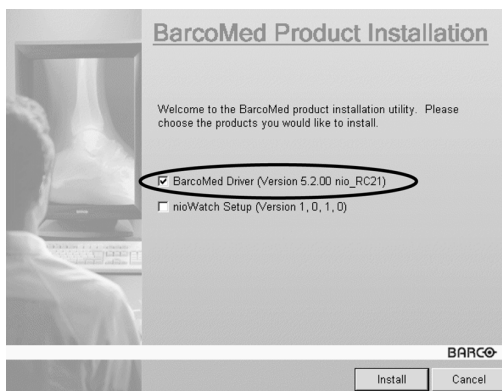

Figure 50
3. To update the driver, clear the checkbox next to **“NioWatch Setup”** (figure 50) and click **“Install”**.